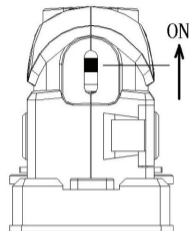

Fig. 5
4. Turn on the laser (do not stare into the laser beam, see Fig.5)